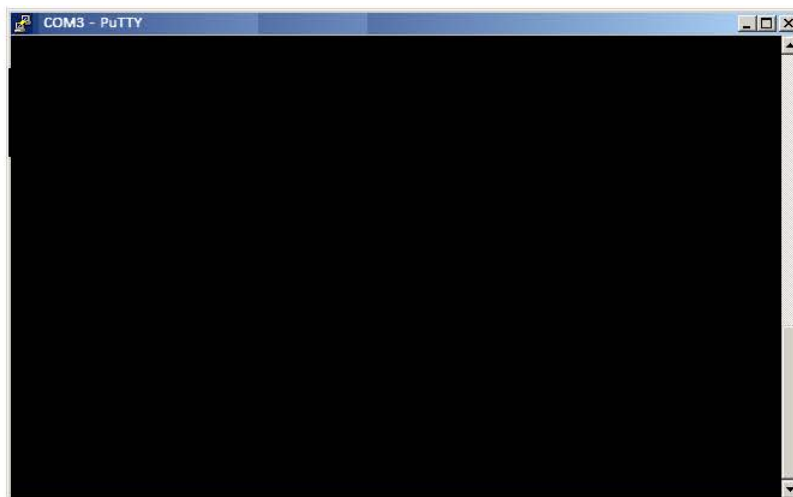

Figure 33. PuTTY Terminal Window
4. Open your preferred terminal program, be sure to select the correct serial port and set the proper baud rate, data bits, stop bits and parity. (Figure 33).